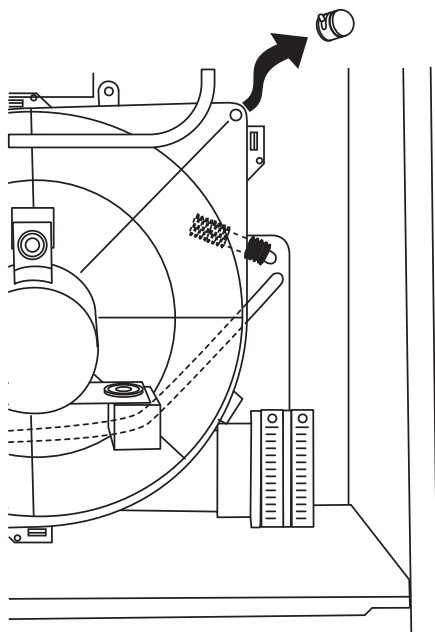

Fig. 18 - Inducer Housing Drain Tube
3. Disconnect upper inducer housing drain connection cap from inducer housing. (See Fig. 18.)